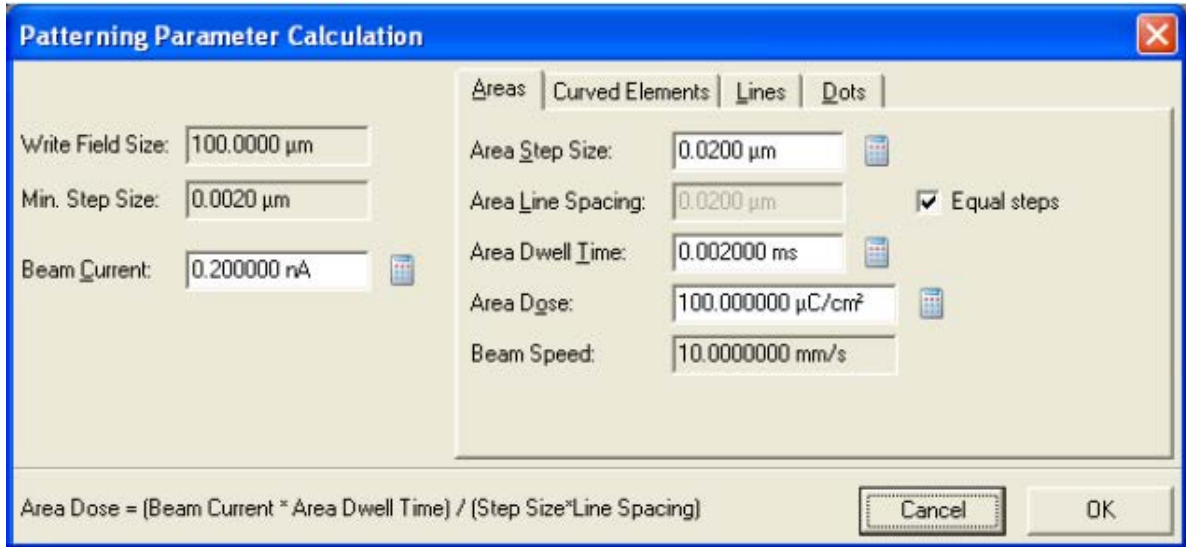

Figure 26: Pattern Parameter Calculator.
2. In the calculation window check that the beam current measured earlier appears in the beam current field (see Figure 26). Then choose an area step size (20 nm to get you started, 2 nm is minimum for the 100 micron writefield) and an area dose (100 $\mu\text{C}/\text{cm}^2$ is a good start for at 10 keV and a thin PMMA layer). Click on the calculator icon next to the Area Dwell time field, which calculates the correct dwell time for the chosen parameters, so that the equation displayed at the bottom of the window is satisfied and the 'Areas' heading turns from red to black. Perform the same actions for the other element types (curved elements, lines, etc.) depending on which ones you use in your pattern file. For details check the Software Operation Manual.